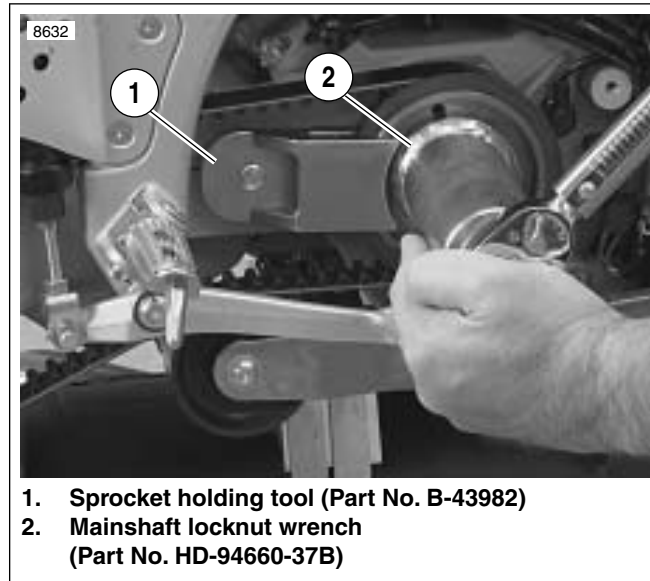

Figure 6-94. Transmission Sprocket Tightening
5. See Figure 6-94. Install SPROCKET HOLDING TOOL (Part No. B-43982) as shown.